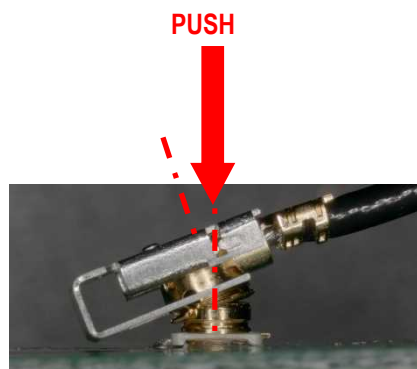

Fig.4-2
- Please make sure to set the cable side connector parallel to the board. If you mate in not parallel condition as shown in Fig.4-2, connector will be damaged.